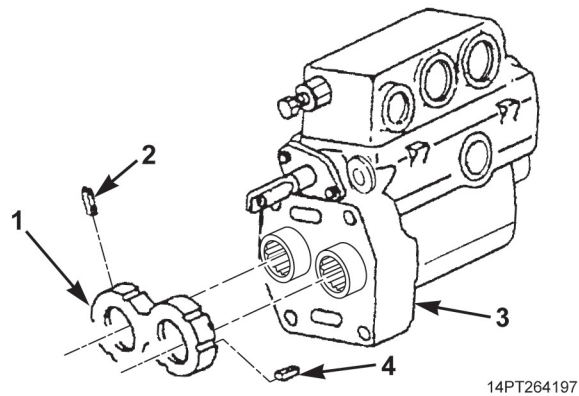

Figure 6. Hydraulic Pump Disassembly.
10. Remove thrust plate (Figure 6, Item 1) and six pocket seals (Figure 6, Items 2 and 4) from pump housing (Figure 6, Item 3). Discard pocket seals.